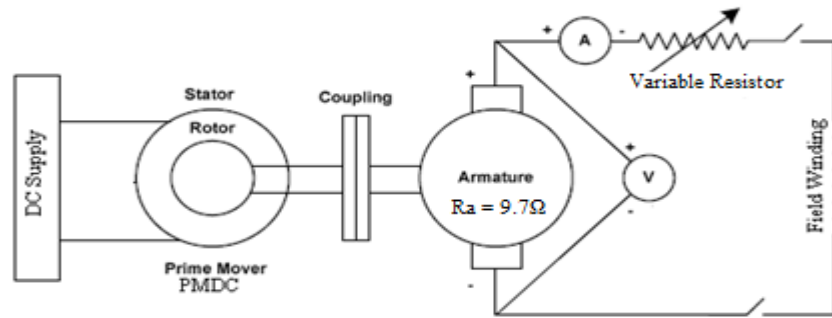

Figure 5.1: Circuit Diagram for No Load Characteristics
Due to residual magnetism in the poles, some emf is generated even when field current is zero. Hence the curve starts a little way up. It is seen that the first part of the curve is practically straight. This is due the fact that at low flux densities reluctance of iron path is being negligible, total reluctance is given by air gap reluctance which is constant. Hence the flux and consequently the generated emf are directly proportional to exciting current. However, at high flux densities iron path reluctance is being appreciable and straight relation between emf and field current no longer holds good. In other words, saturation of poles starts. The circuit diagram for No Load characteristics is shown in Figure 5.1
1. Connect the shunt field to armature terminal through the ammeter, switch and rheostat as shown in Figure 5.1.